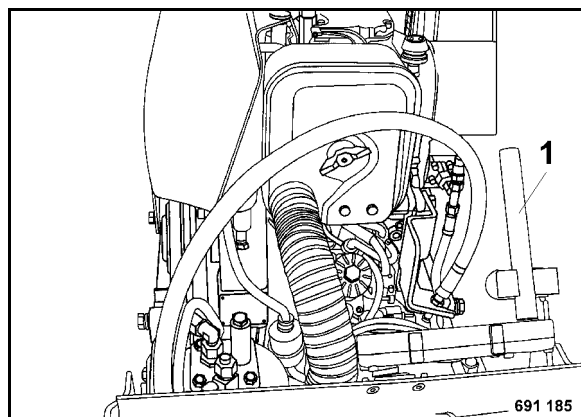

Fig. 29
- Hook the safety crank handle 1 (Fig. 29) back into the bracket.